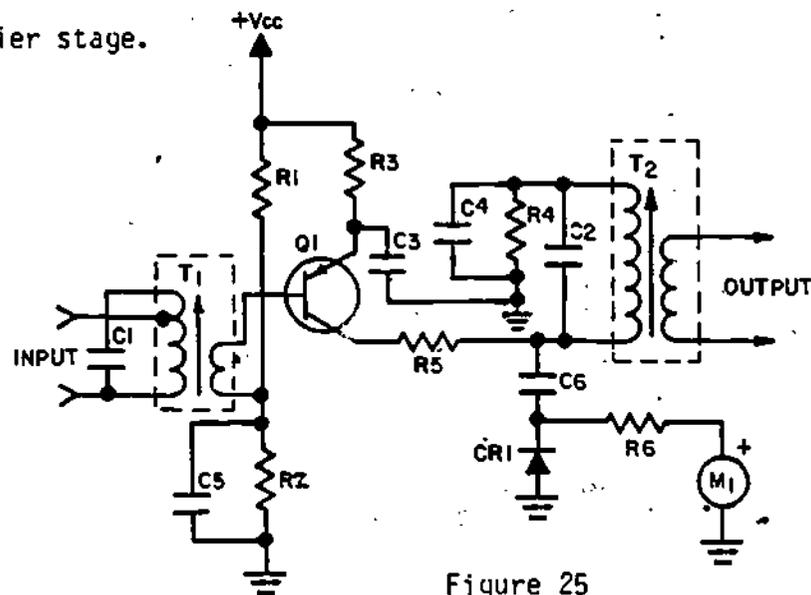

Figure 25
26. Let's look at the operation of an "S" meter in a circuit. Figure 25 shows the components for the "S" meter circuit in the NIDA trainer IF amplifier stage.